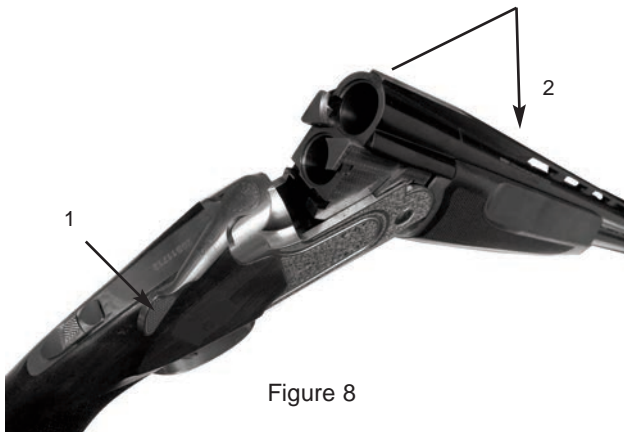

Figure 8
1. With the firearm pointed in a safe direction, open the firearm by moving the top lever fully to the right, and assist the barrel swing with your hand by pulling down on the forearm (Figure 8).
1. Open the firearm by moving the top lever fully to the right, and "break open" the action by pulling down on the forearm (Figure 8).
1. Open the action by moving the top lever fully to the right, and assist the barrel swing with your hand by pulling down on the forearm (Figure 8).
1. Open the firearm by moving the top lever fully to the right, and assist the barrel swing with your hand by pulling down on the forearm (Figure 8).
6. Open the firearm by moving the top lever fully to the right, and assist the barrel swing with your hand by pulling down on the forearm (Figure 8). Move the safety button fully rearward to the "ON" (SAFE) position.